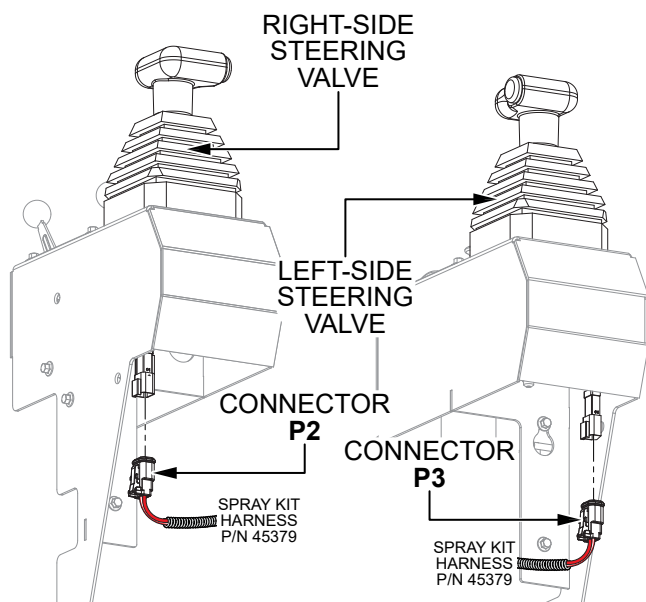

Figure 14. Connect Steering Valves
- Plug connector P2 from the spray kit wiring harness (P/N 45379) into the right-side steering valve. Plug connector P3 from the wiring harness into the left-side steering valve. See Figure 14.